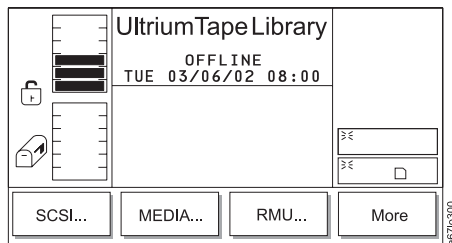

Figure 4-81. Library Submenu
2. Press the button below the **Library** softkey. The Library Submenu displays (see Figure 4-81).